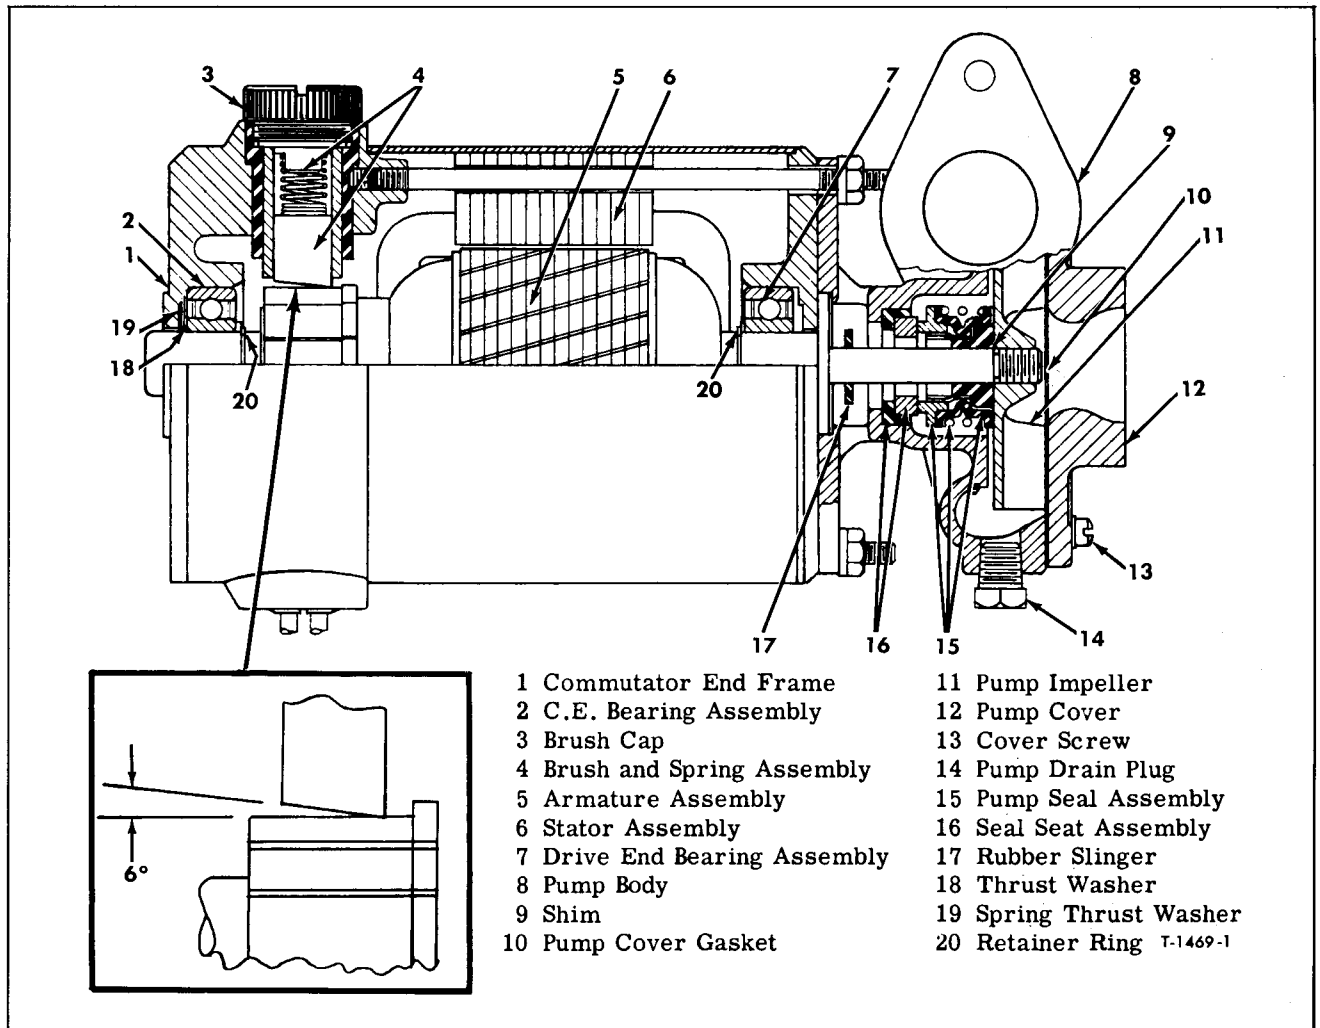

Figure 9—Water Booster Pump and Motor
(Key numbers in text refer to figure 9.)
INSPECTION (Refer to Fig. 9)
- d. New brushes have a 6° angle on the brush face. The brush should always be inserted so the angle is open away from the pump end of the assembly (see fig. 9).
ASSEMBLY (Refer to Fig. 9)